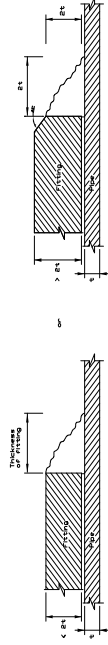

Figure 5 Dimension of fillet leg length to suit thickness of fitting
- Where the fitting thickness is greater than twice the run pipe wall thickness, the fitting shall be chamfered at 45 degree to enable fillet weld leg lengths of two times the run pipe wall thickness, see Figure 5